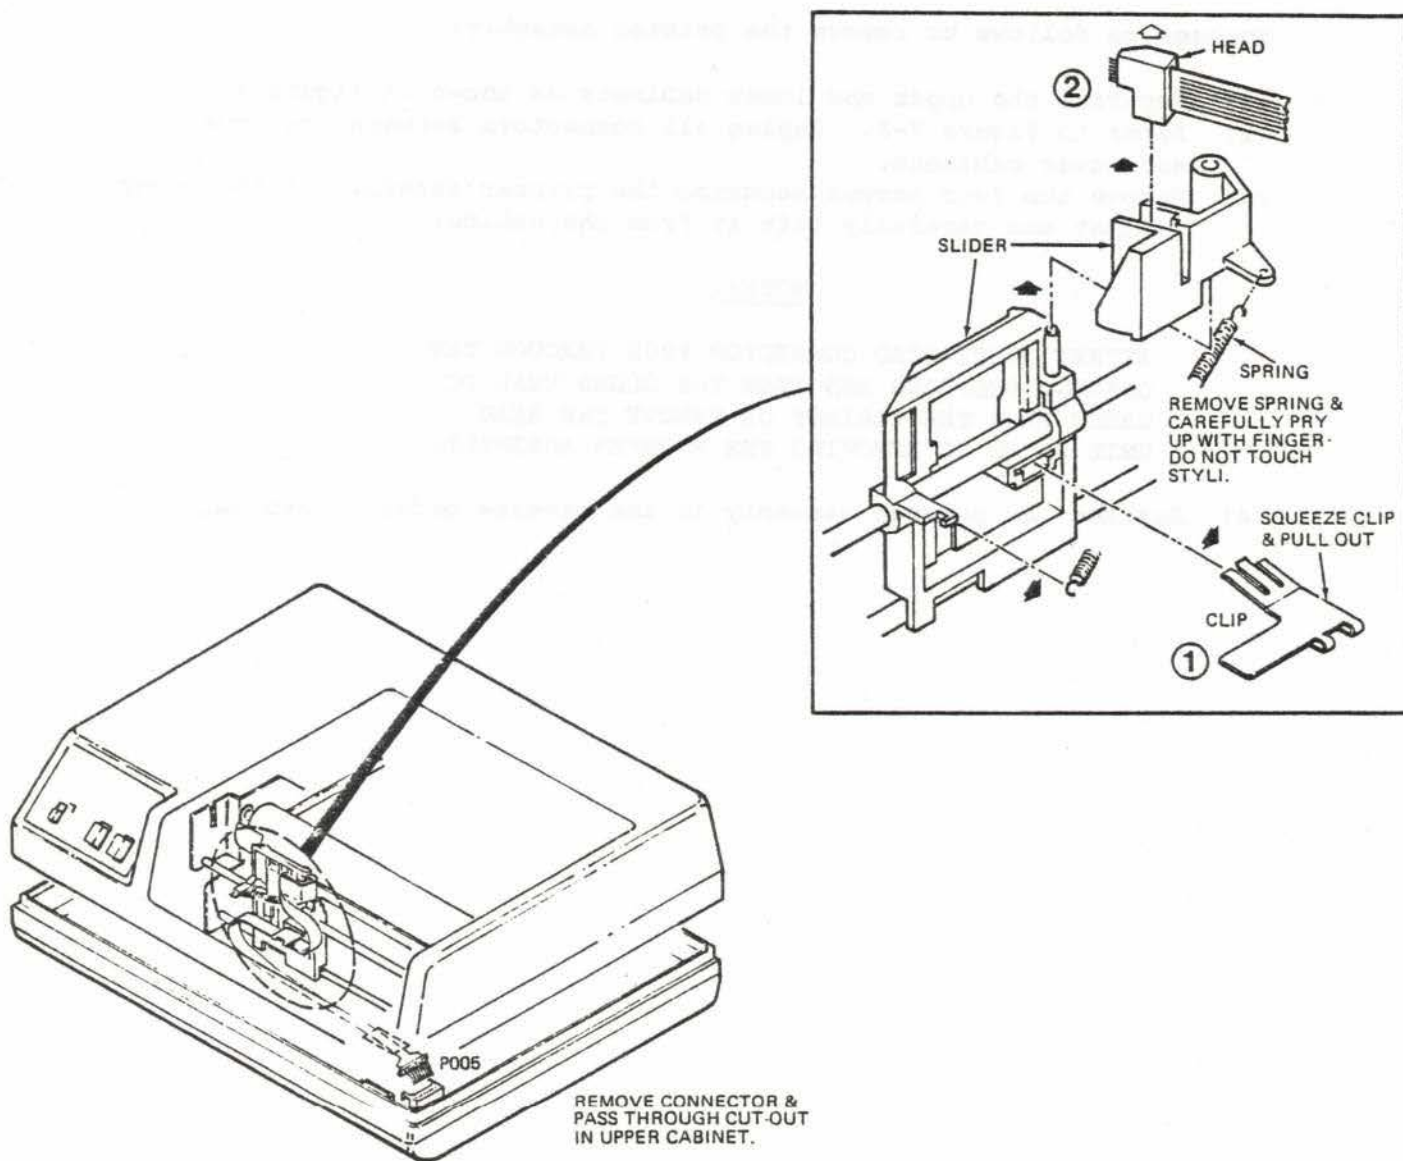

Figure 7-2. HEAD UNIT REMOVAL
- (2) Refer to Figure 7-2. Rest the upper cabinet on the bottom cabinet. It is not necessary to remove any connectors except for the head unit connector (P005) on the main pc board.
- (3) Follow steps 1-3 of Figure 7-2 and remove the head unit.